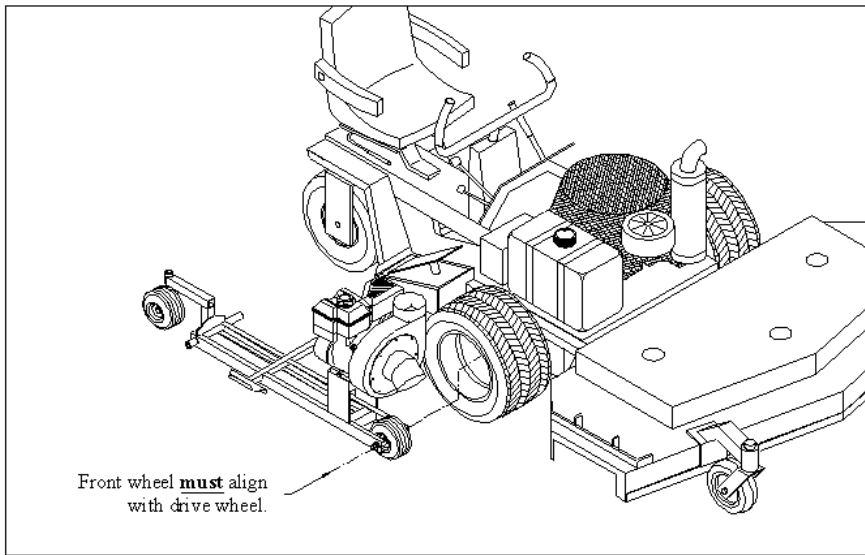

Fig. 4
4. Place vac assembly beside tractor with engine to the front. Front wheel of vac **must** align with drive wheel of mower. **Fig. 4**